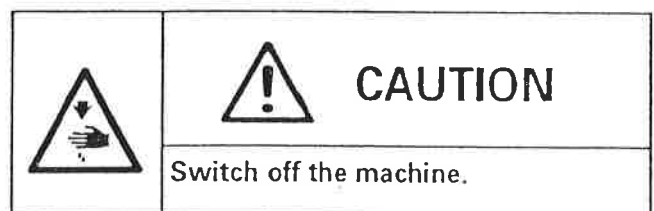

Fig.4
Set the needle bar at its highest point. Loosen needle set screw ①. Insert the needle in the needle holder and push it up as far as it will go. Make sure its long groove faces toward the front. Tighten needle set screw ① securely, as shown in Fig. 4.